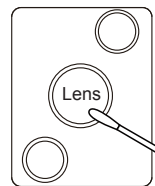

Fig.11
3. Clean the sensor lens with wet cotton swab and then use dry cotton swab to wipe residual water stains on the lens.(see fig. 11)